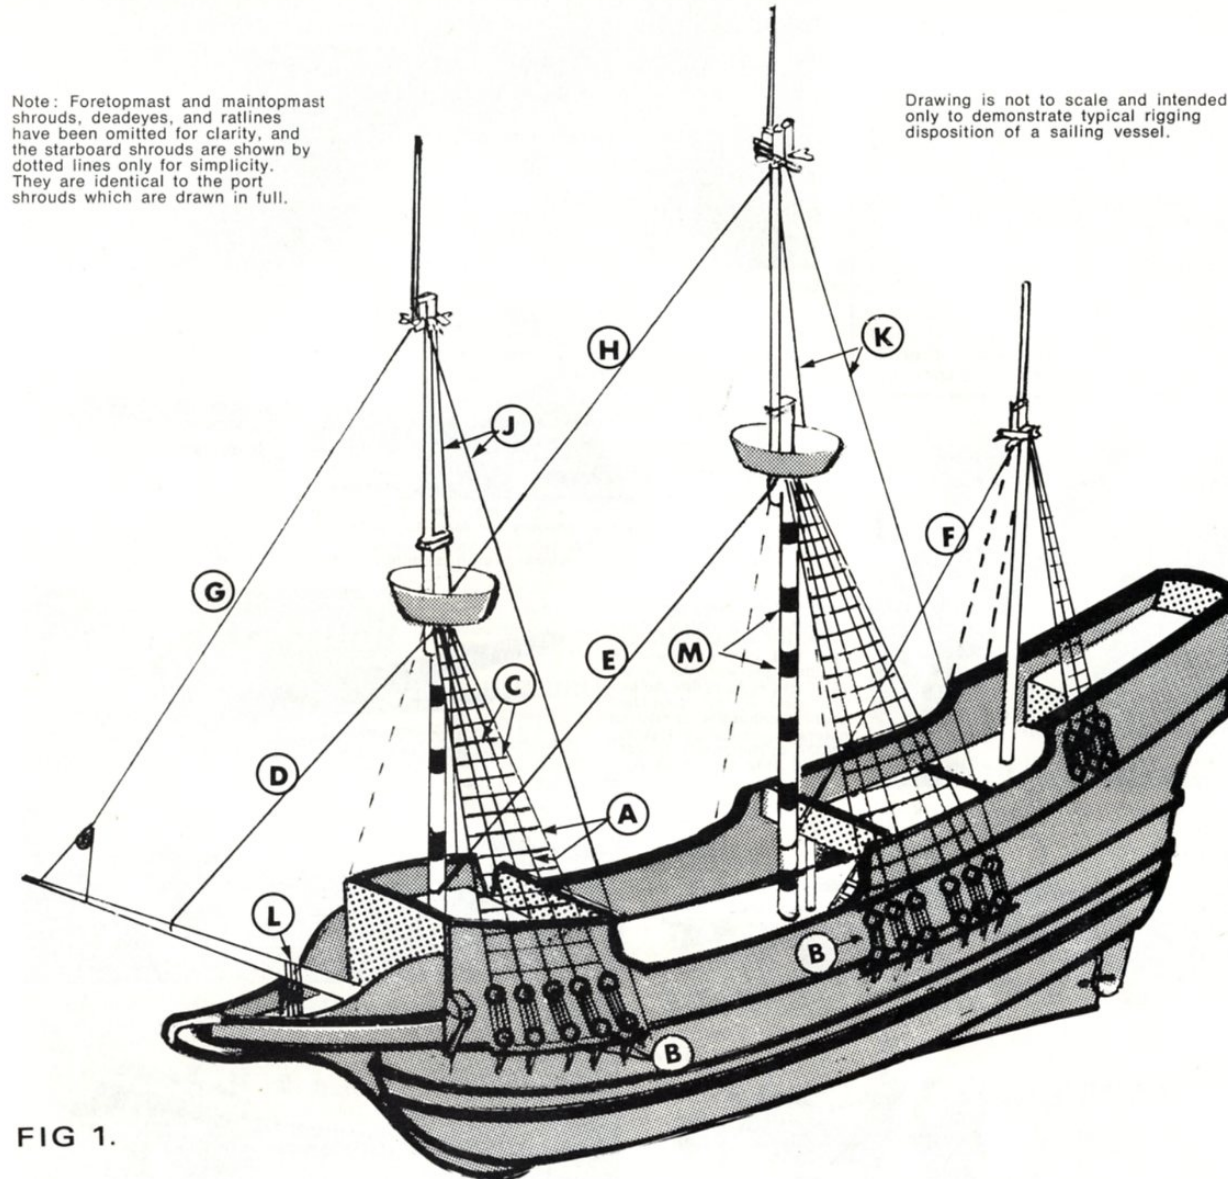

FIG 1.
**Standing rigging** This supports the masts and is not movable. It was usually coated with tar to protect it from the elements, and black thread should therefore be used for it. Fig 1 shows a three-master of about 1600 with its standing rigging in place, but the basic principles apply equally to an Elizabethan galleon or to a full-rigged 19th century clipper. Each mast is supported sideways by *shrouds* (A) which lead to *deadeyes* (B)